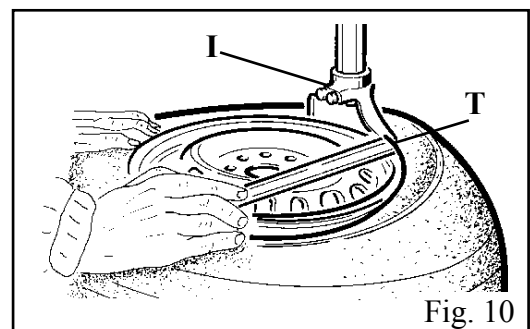

Fig. 10
•With the lever (T) inserted between the bead and the front section of the mounting head (I), move the tyre bead over the mounting head (Fig. 10). **Note:** In order to avoid damaging the inner tube, if there is one, it is advisable to carry out this operation with the valve about 10 cm to the right of the mounting head.
•With the lever held in this position, rotate the turntable (Y) in a clockwise direction by pressing down on pedal (Z) until the tyre is completely separated from the wheel rim.